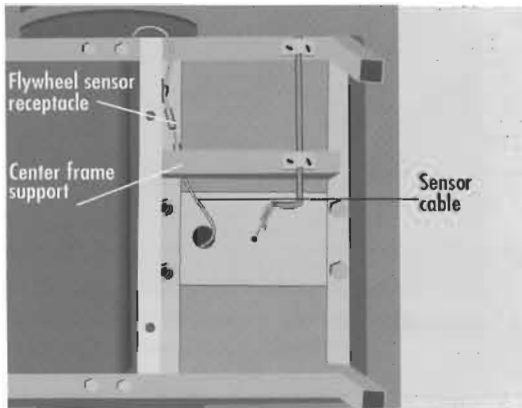

Figure 8
4. Snap the sensor cord to the underside receptacle of the flywheel sensor (Figure 8). The connection should be tight.